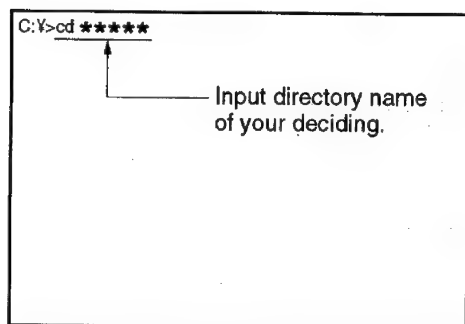

Fig. 7-1
- 1) Input "cd " as shown in Fig. 7-1. Then, press "ENTER" key.